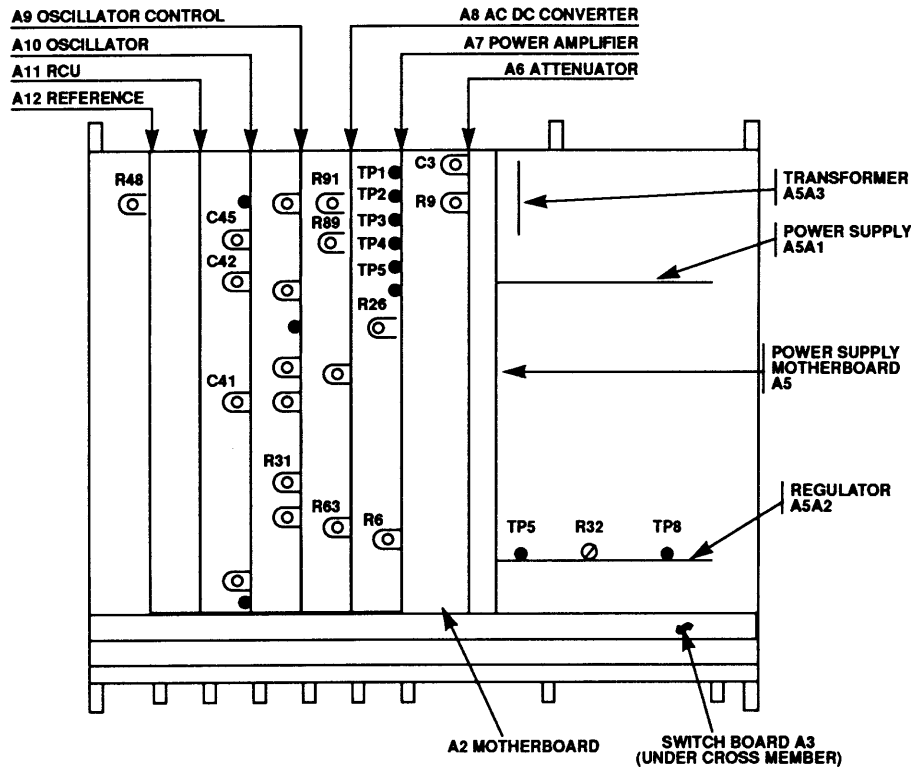

Figure 1. Ac calibrator - adjustment locations.
(1) Connect true rms voltmeter to **QUADRATURE OUT** (rear of TI).
(2) Set true rms voltmeter **FUNCTION** pushbutton to **FILT OUT**.
(3) Connect frequency counter to **COUNTER OUT** (rear of TI).
(4) Set **FREQUENCY RANGE-Hz** switch to **1 M** and **FREQUENCY** dials to **1.0520 MHz**.
(5) If frequency counter does not indicate between 1.0420 and 1.0620 MHz, adjust A10C41 and A10C45 (fig. 1) in equal amounts in the same direction until frequency counter indicates 1.0520 MHz (R).
(6) If true rms voltmeter does not indicate between 9 and 11 V, adjust A10C41 and A10C45 (fig. 1) in equal amounts in opposite directions until true rms voltmeter indicates 10 V (R).
(7) Set **FREQUENCY RANGE-Hz** switch to **100 K** and **FREQUENCY** dials to **80.00 kHz**.
(8) If frequency counter does not indicate between 79.6 and 80.4 kHz, adjust A10C42 (fig. 1) for a counter indication of 80 kHz (R).
- (1) Connect multimeter between A7TP4 (LO) and A7TP5 (HI) (fig. 1) of the power amplifier board.
(2) Set **FREQUENCY RANGE-Hz** switch to **100 K** and **FREQUENCY** dials to **100.00 kHz**.
(3) Set **VOLTAGE RANGE** switch to **100 V** and **VOLTAGE** dials to **10.0000 V**.
(4) If multimeter does not indicate between 0.34 and 0.36 V dc, adjust A7R26 (fig. 1) for multimeter indication of 0.35 V dc (R).
(5) Measure distortion. Adjust A9R31 (fig. 1) for minimum distortion (R).
(6) Connect multimeter to **TI OUTPUT** and **SENSE** terminals, using two cables.
(7) Set **FREQUENCY RANGE-Hz** switch to **1 kHz** and **FREQUENCY** dials to **1.0 K**.
(8) Set **VOLTAGE RANGE** switch to **10 V**, **VOLTAGE** dials to **10.00000 V** and **SENSE** switch to **EXT**.
(9) If multimeter does not indicate between $\pm 100 \mu\text{V}$ dc, adjust A7R6 (fig. 1) for a within-tolerance indication (R).
b. Adjustments (figure 1)